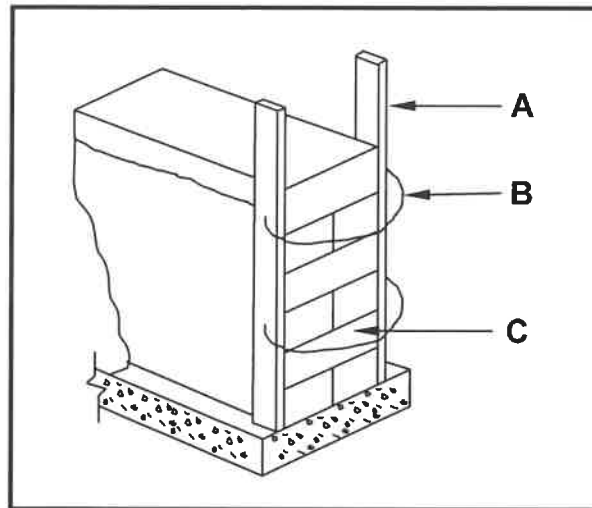

FIGURE 5.2
- 5.2 FIGURE 5.2 below shows the construction detail to plaster the reveals at a door opening.